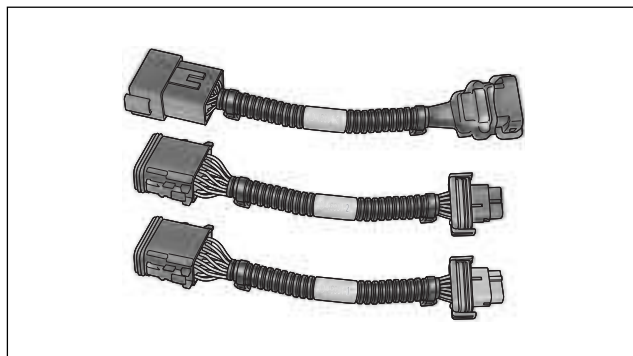

Figure 2-15. Instrument Harness Adapters (Part No. HD-46601)
2. See Figure 2-15. Detach Instrument Harness Adapters from connectors [39A] and [39B].